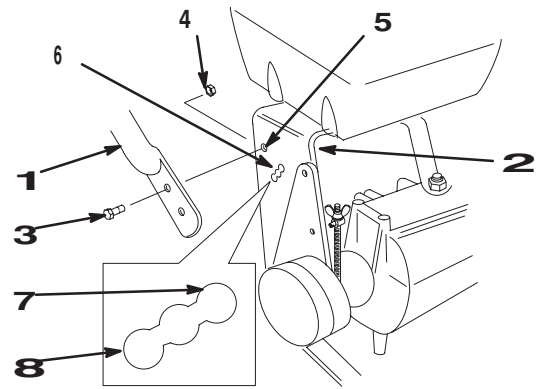

Figure 6
1. Align upper handle with upper mounting holes in rear frame (Fig. 6).
2. Secure each upper mounting hole with a flange bolt (3/8 x 1 in. (26mm)) and flange nut (Fig. 6). Torque bolts to 25 ft. lbs. (34 N.m).
3. Select high, medium or low position for the lower mounting hole (Fig. 6). This allows the upper handle to be adjusted to the user's height preference.
4. Secure each lower mounting hole with a flange bolt (3/8 x 1 in. (26mm)) and flange nut (Fig. 6). Torque bolts to 25 ft. lbs. (34 N.m).